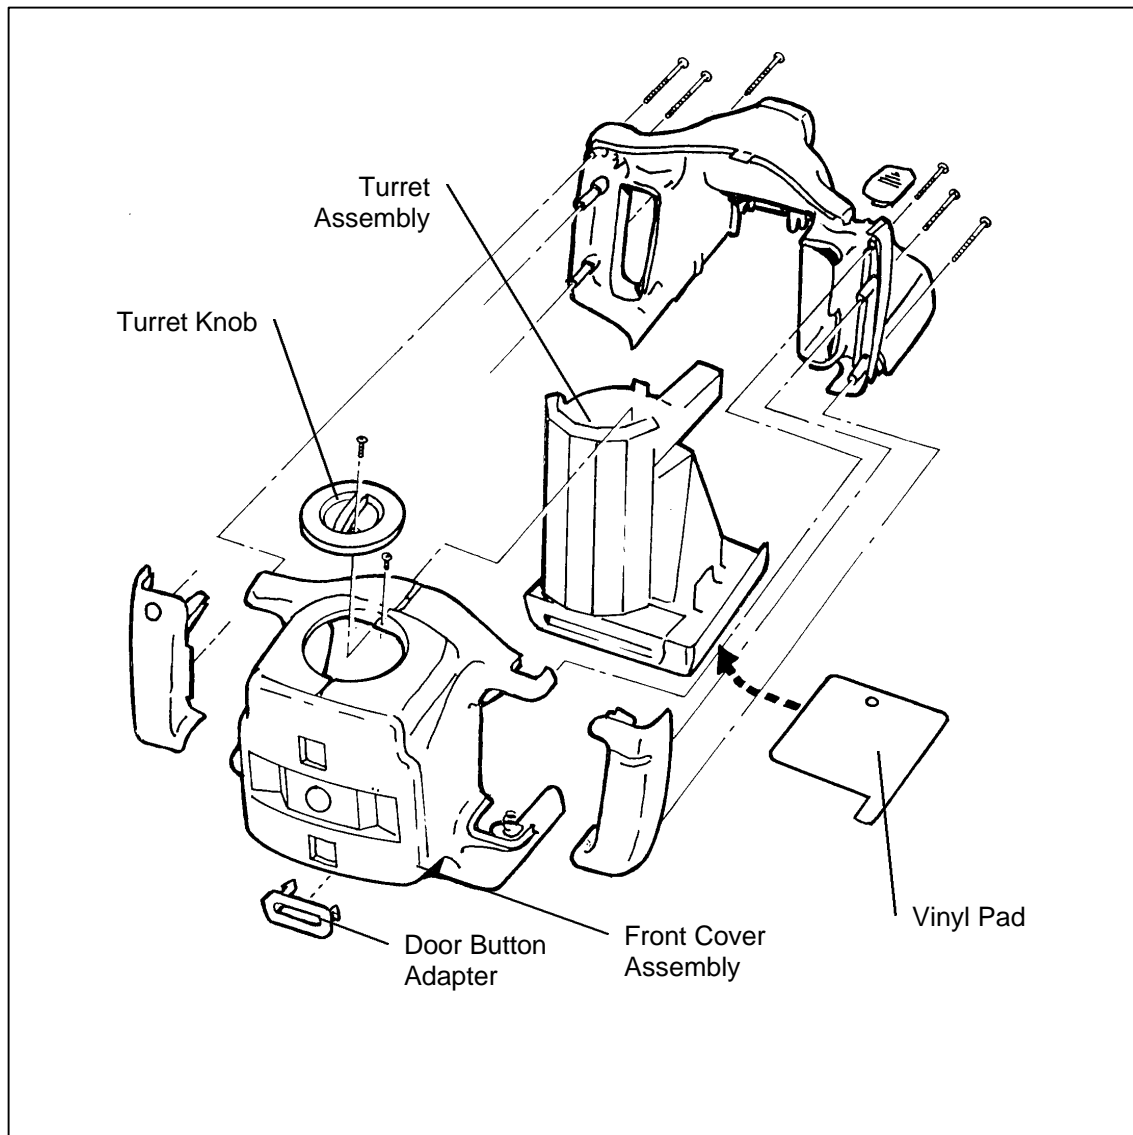

Figure 5-1 Camera Disassembly
1. Removal (Figure 5-1, 5-2 and 5-2a)
- f. Using a torx driver, remove the three (3) screws securing the left hand grip to the left cover. Lift off the left hand grip.
- g. Using a torx driver, remove the three (3) screws securing the right hand grip to the right cover. Lift off the right hand grip.